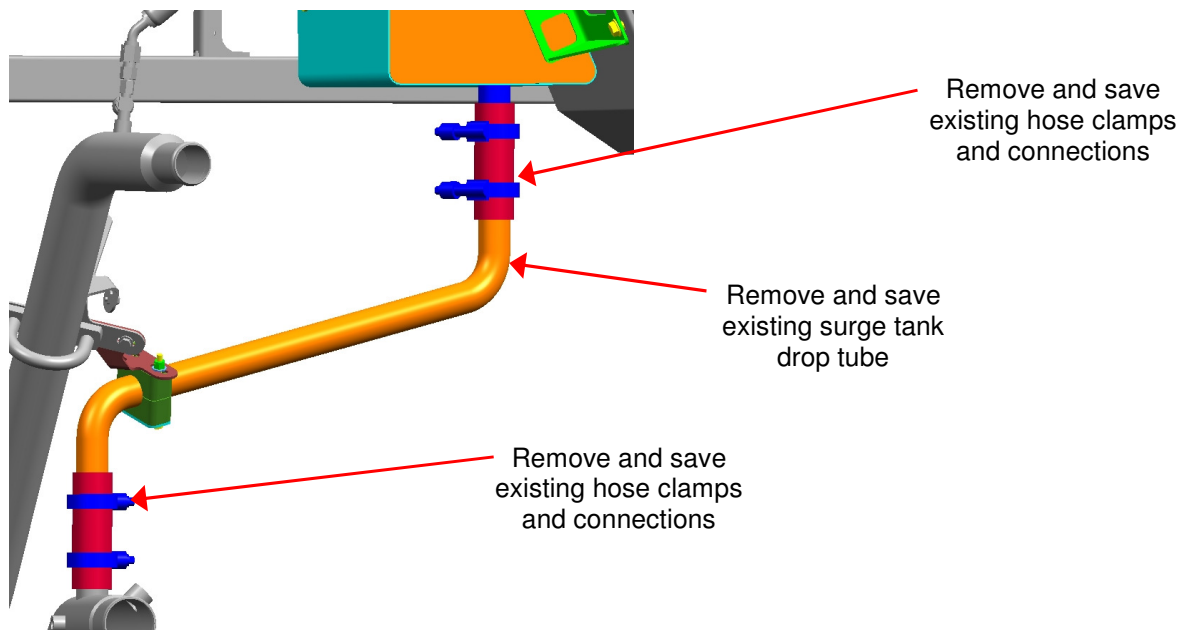

Figure 7: Surge Tank Drop Tube Removal
12. Remove and save the existing surge tank drop tube as well as the existing hose connections, clamps and hardware for reuse later in this install. See Figure 7.